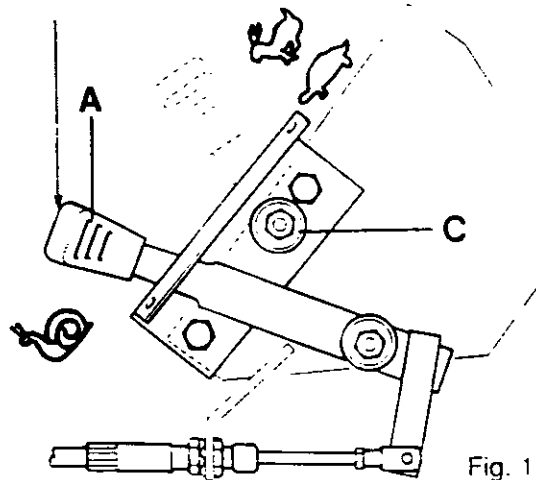

Fig. 1
Coupling sleeve (8) is splined to connecting shaft (21). If lever A is moved towards the creeper gear position (Figs. 1 and 2), this shifts coupling sleeve (8) towards the rear and engages its external teeth with planetary carrier (1). The speed of connecting shaft (21) is then 1/4 of the speed of the output shaft.
The electrical signal indicating that the creeper speed range has been selected is transmitted from switch C. Switch C is mounted on the control box in the manner shown in Fig. 1 in the case of tractors without an «Auto-tronic» or «E» and in the manner shown in Fig 2 in the case of tractors with an «Autotronic».